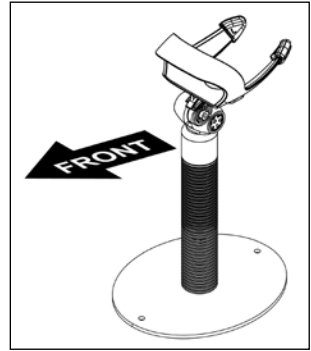

Figure 3.
2. When choosing the stand location, make sure to consider the front orientation of the stand (indicated in *Figure 3*).